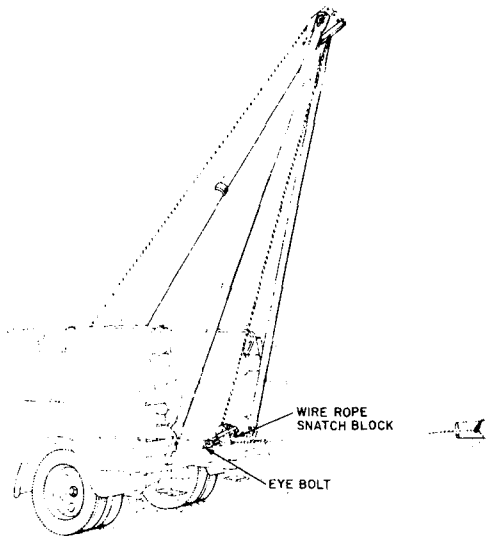

Fig. 6—Snaking a Pole
- Other types of derricks—run winch line directly from the derrick head if pull is straight to the rear of the truck. If pull is at an angle, the winch line shall be run through a snatch block as shown in Fig. 6.